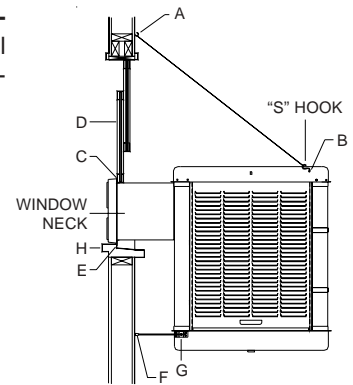

FIG. 1
- **Screw chain hooks into window facing.** Position the two chain hooks above the neck of the cooler a distance equal to the width of the cooler apart (A-Fig. 1). Hook one hanger chain in each hook and then an "S" hook in the other end of each chain. **NOTE:** Chain hooks supplied with this mounting kit have wood screw threads for wood walls. Concrete, brick walls or concrete blocks require sufficiently strong wing nuts or anchors with mating hooks.
- **Position cooler in window.** Position neck of cooler so that bottom of neck flange rests on window sill and flange (E-Fig. 1) is snug against edge of sill (H-Fig. 1). With cooler in position, hook the "S" hooks into the holes of the top panel near the back of the cooler (B-Fig. 1).
- **Place window behind retainer strip.** Raise back of cooler so that the window (D-Fig. 1) may be brought down behind top of panel retainer strip (C-Fig. 1).
- **Adjust house legs.** Pull out house legs so that the rubber bumpers rest against house siding (F-Fig. 1). Tighten screw in retaining collar. (G-Fig. 1).